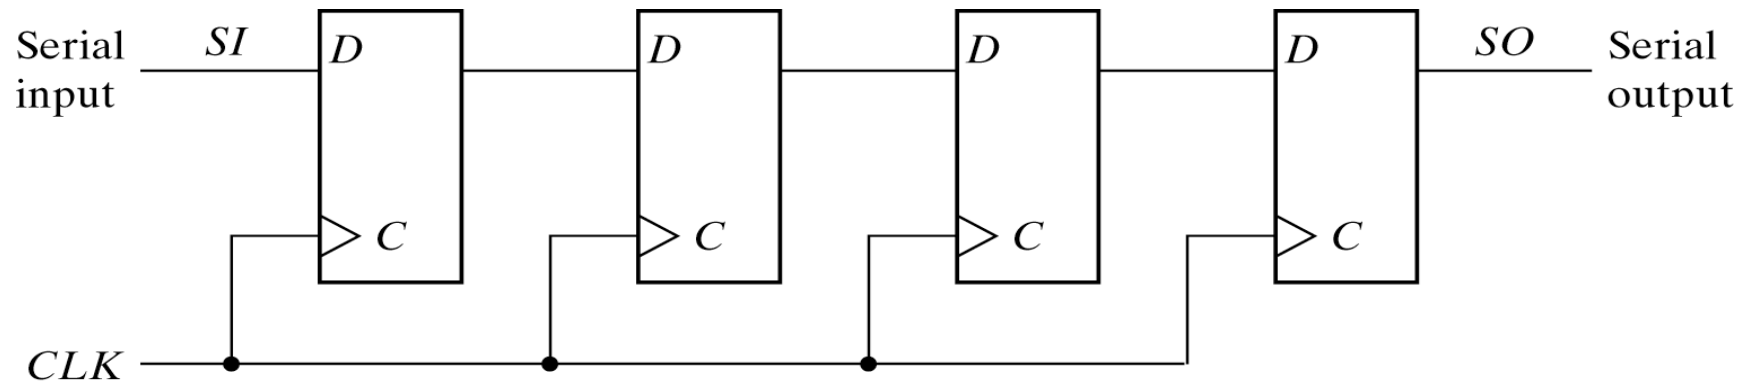

Fig. 6-3 4-Bit Shift Register
- A simplest possible shift register uses only flip flops and is shown in Fig 6-3